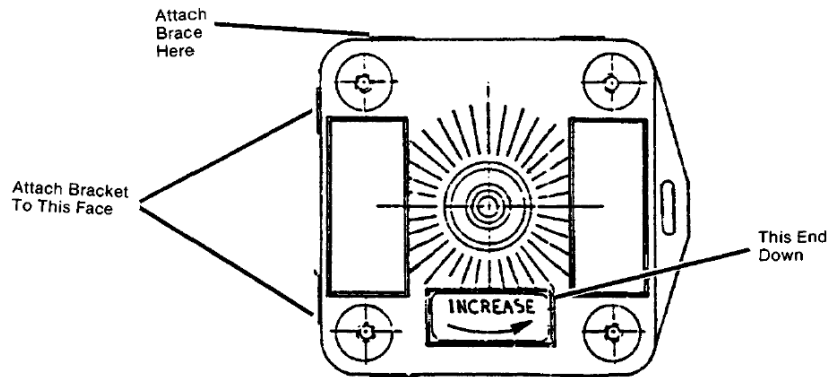

Figure 3. Actuator Face Showing Bracket and Brace Installation
9. Refer to Figure 3 and attach the mounting-kit brace from the actuator to the generator engine. An 8 mm screw is used through the round hole of the brace to attach to the engine head. The bends in the brace may require adjustment for some installations.